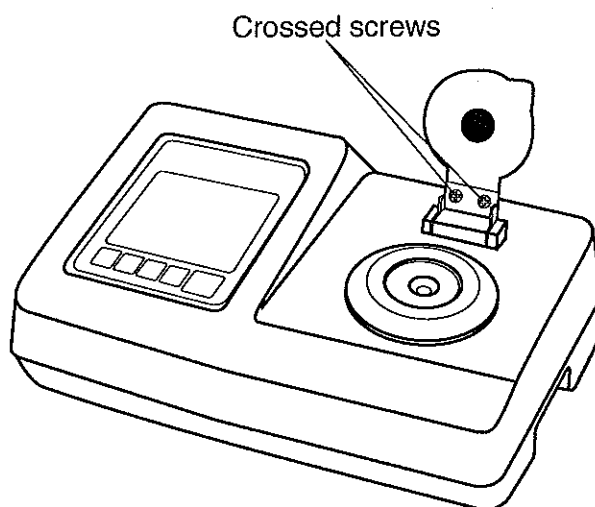

Fig.22-1
(2) How to replace the cover plate (See Fig. 22-1.)